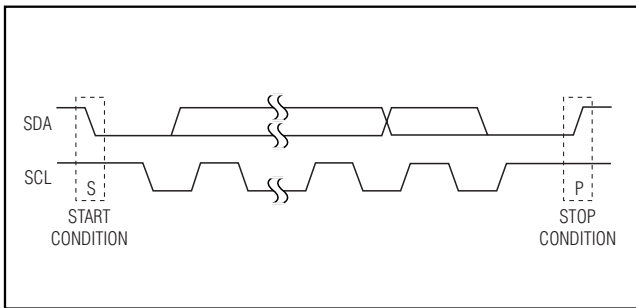

Figure 2. START and STOP Conditions
Each transmission consists of a START condition sent by a master, followed by the MAX7322's 7-bit slave address plus R/W bit, one or more data bytes, and finally a STOP condition (Figure 2).
Both SCL and SDA remain high when the interface is not busy. A master signals the beginning of a transmission with a START (S) condition by transitioning SDA from high to low while SCL is high. When the master has finished communicating with the slave, the master issues a STOP (P) condition by transitioning SDA from low to high while SCL is high. The bus is then free for another transmission (Figure 2).